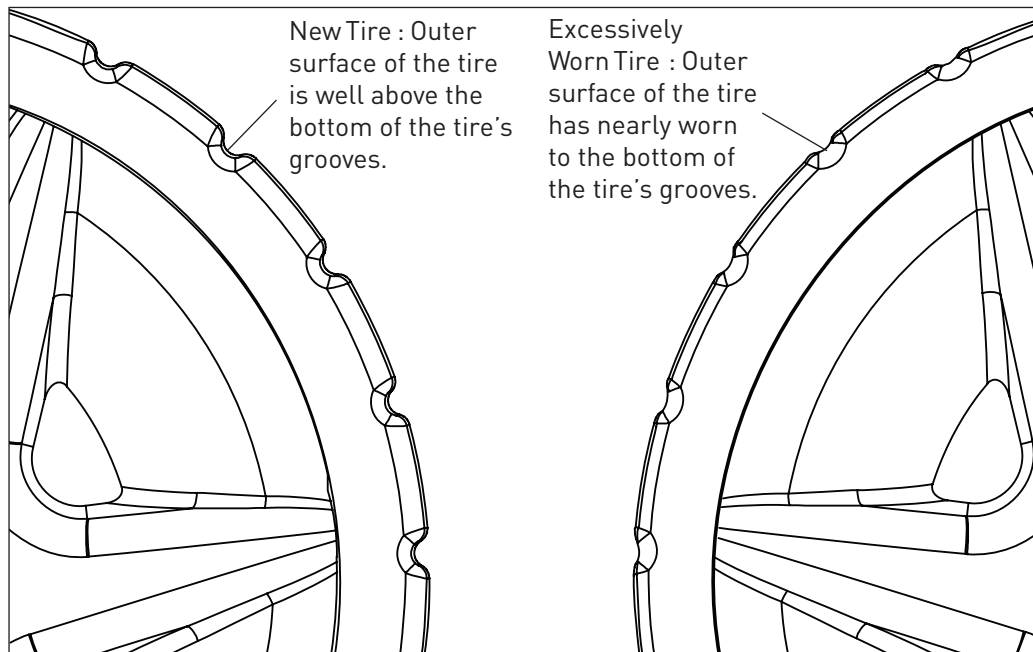

Figure 17: Tire Wear Comparison
- The tires are not excessively worn. See Figure 17 on the next page.
After prolonged use it may become necessary to replace the Rebel™ Suction Side Pool Cleaner's rubber tires. When the tire surface has worn into the tire's grooves the tire is in need of replacement. See Figure 17.